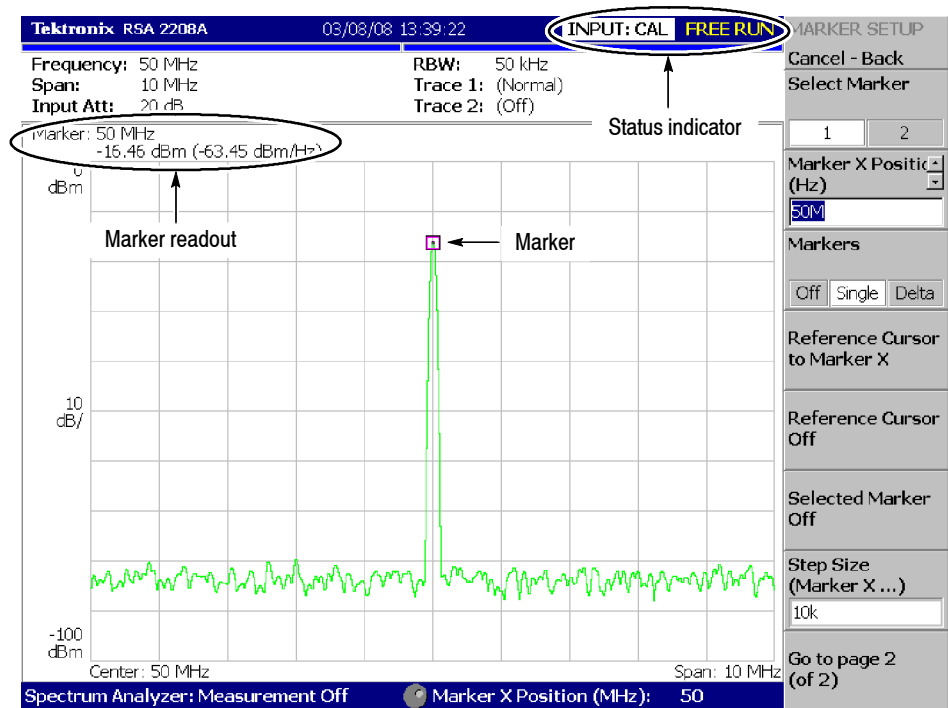

Figure 4-1: Spectrum of the calibration signal (50 MHz, -20 dBm)
- d. Check that “INPUT: CAL” and “FREE RUN” are displayed in the status indicator at the upper right of the screen (see Figure 4-1).
- a. Press the **PEAK** key on the front panel to place the marker on the peak (see Figure 4-1).